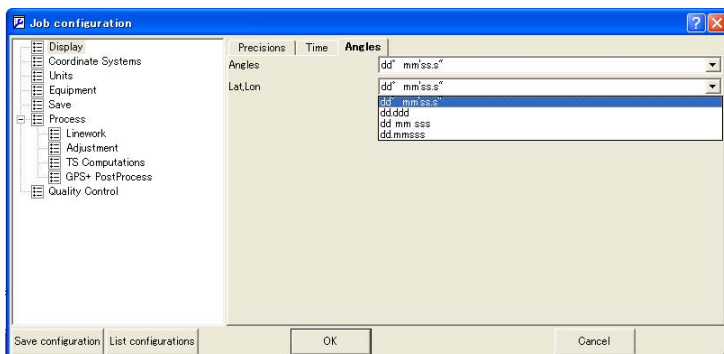

Figure 2-13. Job Configuration – Angles Tab
- The *Angles* tab (Figure 2-13) sets the format angular values.